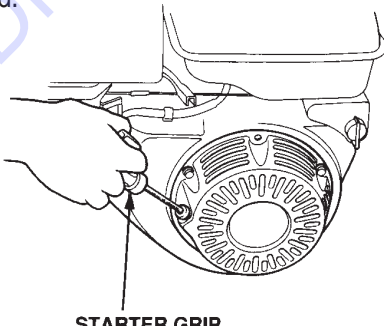

Figure 10. Starter Grip
- Pull the **starter grip** (Figure 10) lightly until you feel resistance, then pull briskly. Return the starter grip gently. Push the clutch lever forward, toward the tow tongue end of the mixer. When engine starts adjust throttle lever so that paddle shaft inside mixer rotates between 30 - 40 RPM's. The number of RPM's will vary depending on engine type and load.